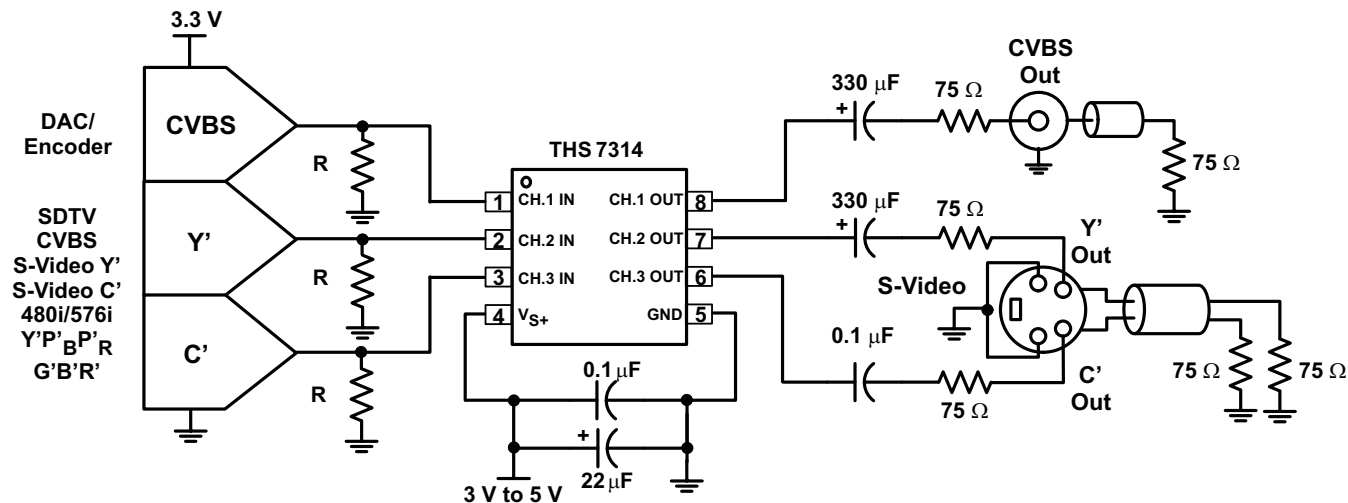

Figure 29. Typical SDTV CVBS/Y'/C' Inputs From DC-Coupled Encoder/DAC With AC-Coupled Line Driving
A typical application circuit using the THS7314 as a video buffer is shown in Figure 29. It shows a DAC (or encoder such as the THS8200) driving the three input channels of the THS7314. Although the S-Video Y'C' channels and the Composite video channel of a Standard Definition video (SD) system are shown, these channels can easily be the Y'P_BP_R' (sometimes labeled Y'U'V' or incorrectly labeled Y'C_BC_R') signals of a 480i or 576i system. These signals can also be G'B'R' (R'G'B') signals or other variations.